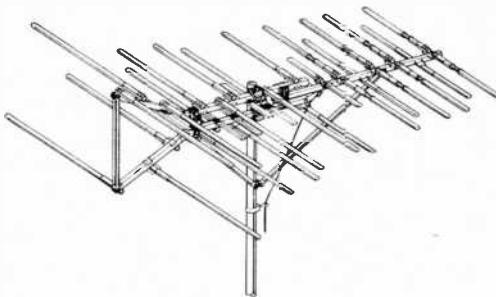

Fig. 2. This antenna from Finco uses their frequency dependent principle.
**Element Shapes and Spacing.** Another patented design principle applies to the *Finco* (*Finney Co.*) antenna in Fig. 2. The company tags the idea its "frequency-dependent principle" (FDP). Short elements, the ones that pick up high-numbered channels, are spaced far apart toward the front of the boom. This trick imparts higher gain as the frequency goes up, which makes up for natural losses in the TV spectrum.